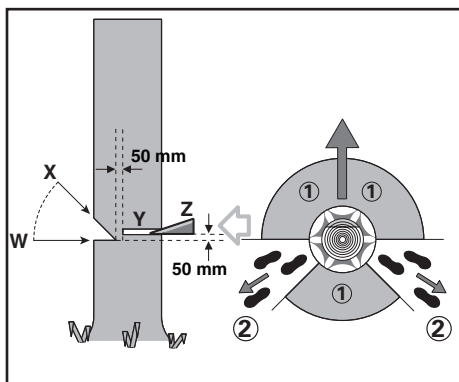

Figure 1
An escape path should be planned and cleared as necessary before cuts are started. The escape path should extend back and diagonally to the rear of the expected line of fall as illustrated in Figure 1.
Make the notch 1/3 the diameter of the tree, perpendicular to the direction of falls as illustrated in Figure 1. Make the lower horizontal notching cut (W) first. This will help to avoid pinching either the saw chain or the guide bar when the second notch (X) is being made.
Make the felling back cut (Y) at least 50 mm higher than the horizontal notching cut as illustrated in Figure 1. Keep the felling back cut parallel to the horizontal notching cut. Make the felling back cut so enough wood is left to act as a hinge. The hinge wood keeps the tree from twisting and falling in the wrong direction. Do not cut through the hinge.